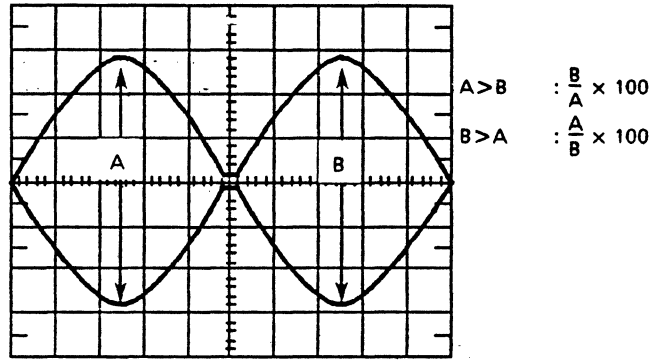

Fig. 9.3 Radial Alignment Waveforms (CATS EYE)
- (4) Check the output waveforms for sides 0 and 1. They should appear as in Fig. 9.3.
- (5) The two waveforms should appear in the amplitude ratio in the R/A column of Table 8.1 or better.
- (6) If the specified ratio is not satisfied, loosen the two mounting screws for the stepper motor.
- (7) Move the stepper motor along the base by hand until the two waveforms assume approximately the same amplitude, and retighten the mounting screws. (See Fig. 9.3.)
- (8) Step the head outward (track 0) and inward (track 40 or 79), and confirm that the adjustment has been completed.
- (9) After the radial adjustment, be sure to confirm track 00 sensor adjustment 9.8 and carriage limiter 9.9.